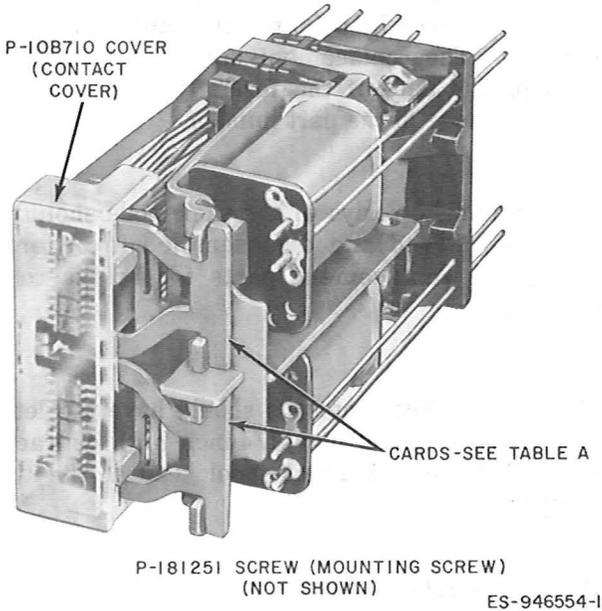

Fig. 1—AK-Type Relay—General View
- Revise Fig. 1 and 2.
2.01 Fig. 1 shows the various piece-parts in their proper relation to other parts of the relay. The piece-part numbers of the various parts are given together with the names of the parts as listed by the Western Electric Company Merchandise Department. When these names differ from those in general use in the field, the latter names in some cases are shown in parentheses.